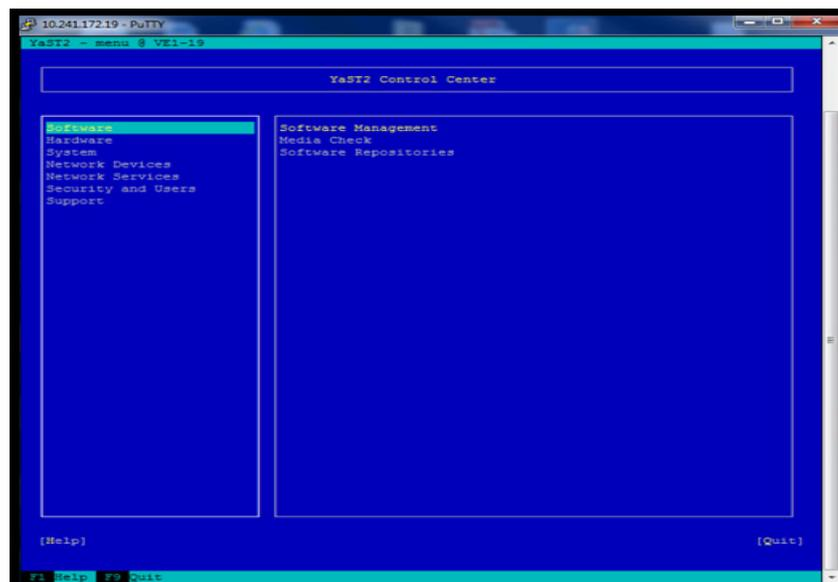

Figure 148 User interface
2. At the prompt, type **yast2**, and then press **Enter**. The YaST2 user interface appears, as shown in Figure 148 on page 122.